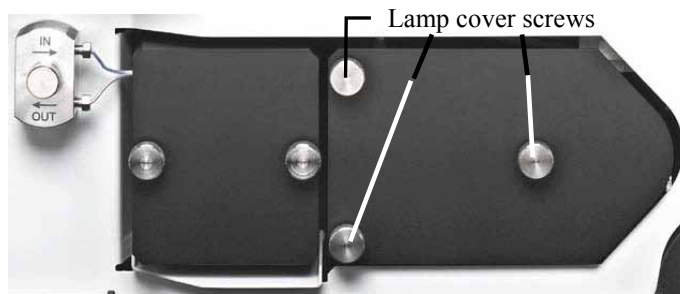

Fig. 34: Lamp housing cover
9. Reinstall the lamp house cover (→ Fig. 34). Route the wires through the guides on the lamp cover inside to prevent them from being pinched under the lamp cover.